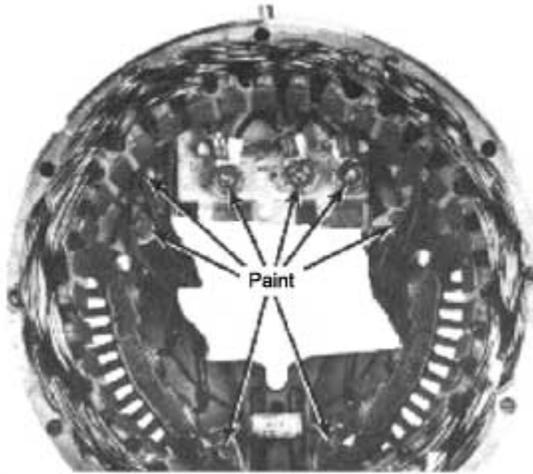

Figure 22
14. Mask roller bearing with masking tape and paint all internal electrical connections with Westinghouse B-6-665 Red Air Dry Epoxy paint (Figure 22).